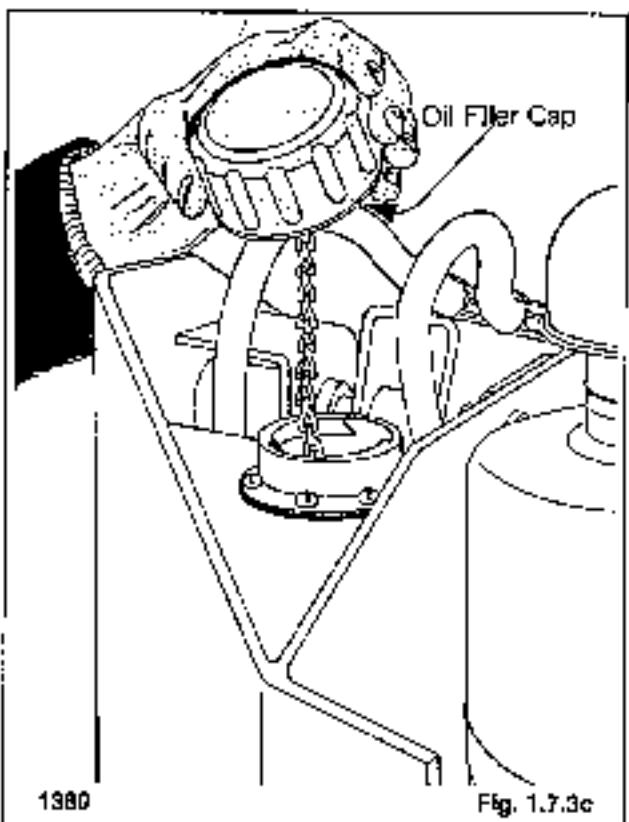

Fig. 1.7.3c
2. Remove the filler cap (fig. 1.7.3c)